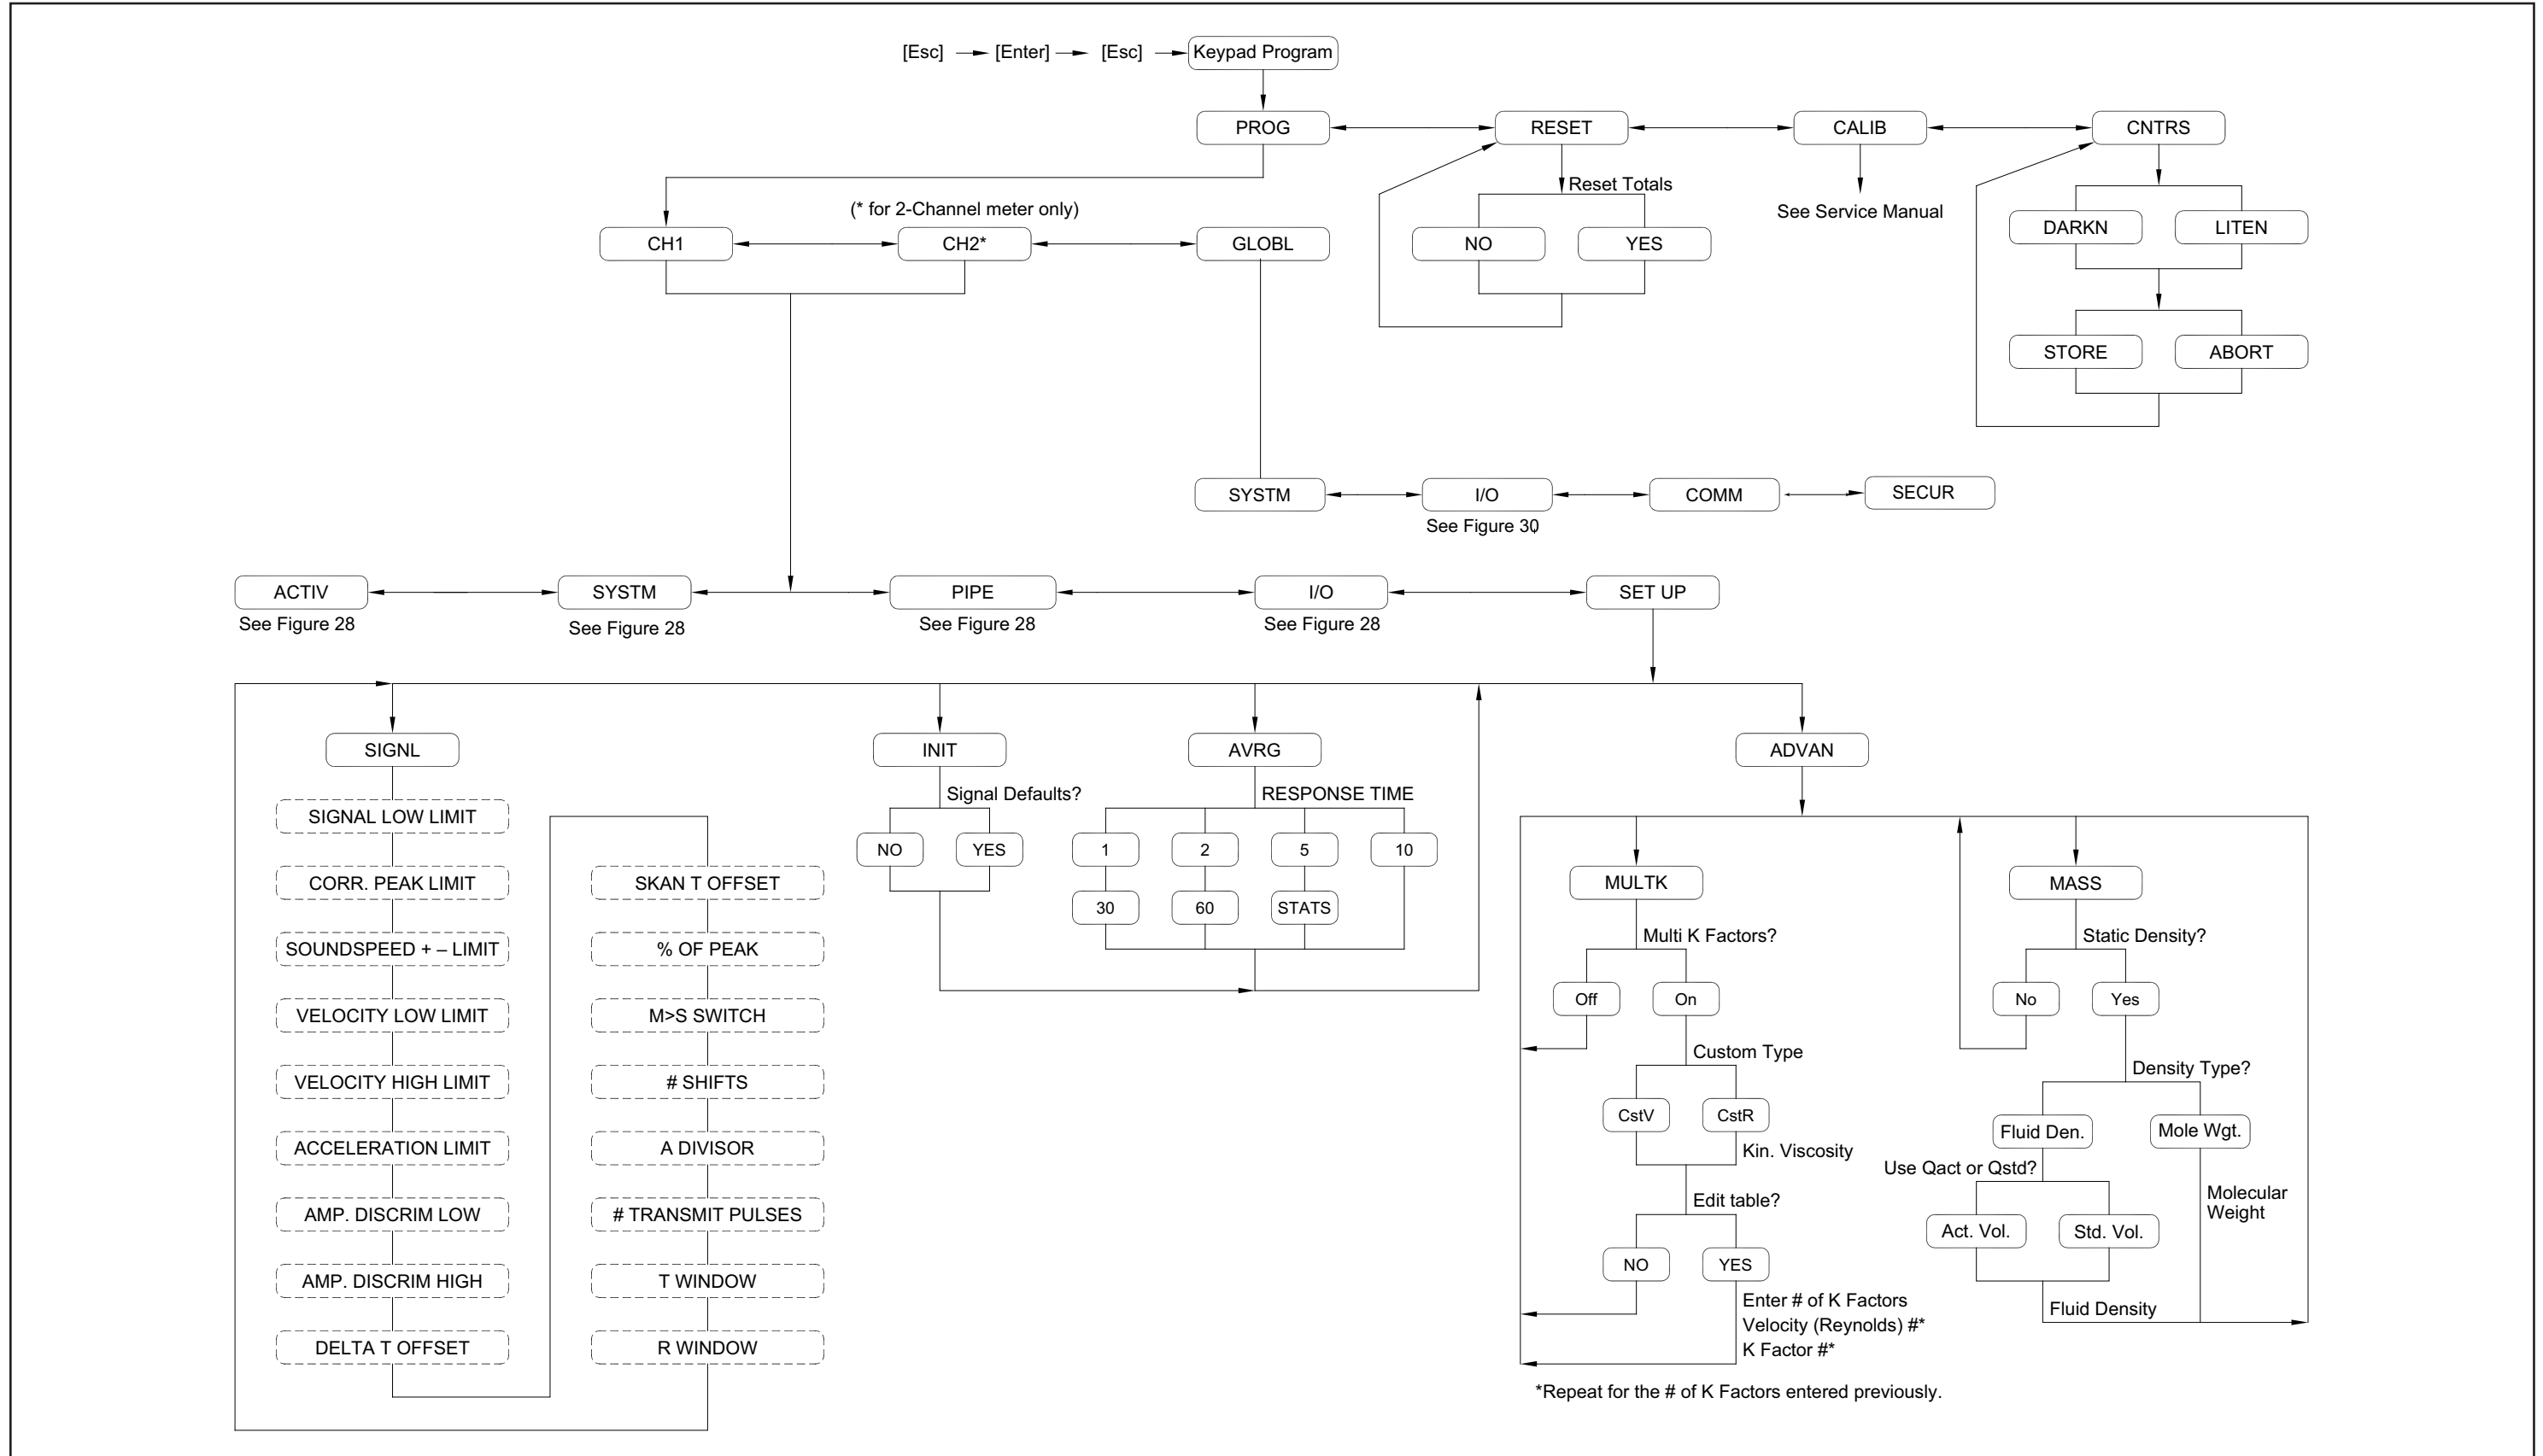

Figure 29: PROG > CHx > SETUP Menu
- Figure 29, “PROG > CHx > SETUP Menu,” on page 74